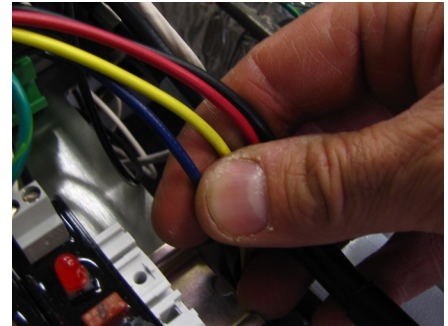

Figure 14
14. Identify the four [blue(i1), yellow(i2), red(4) and black(4)] wires coming from the valve motor as shown in Figure 14.